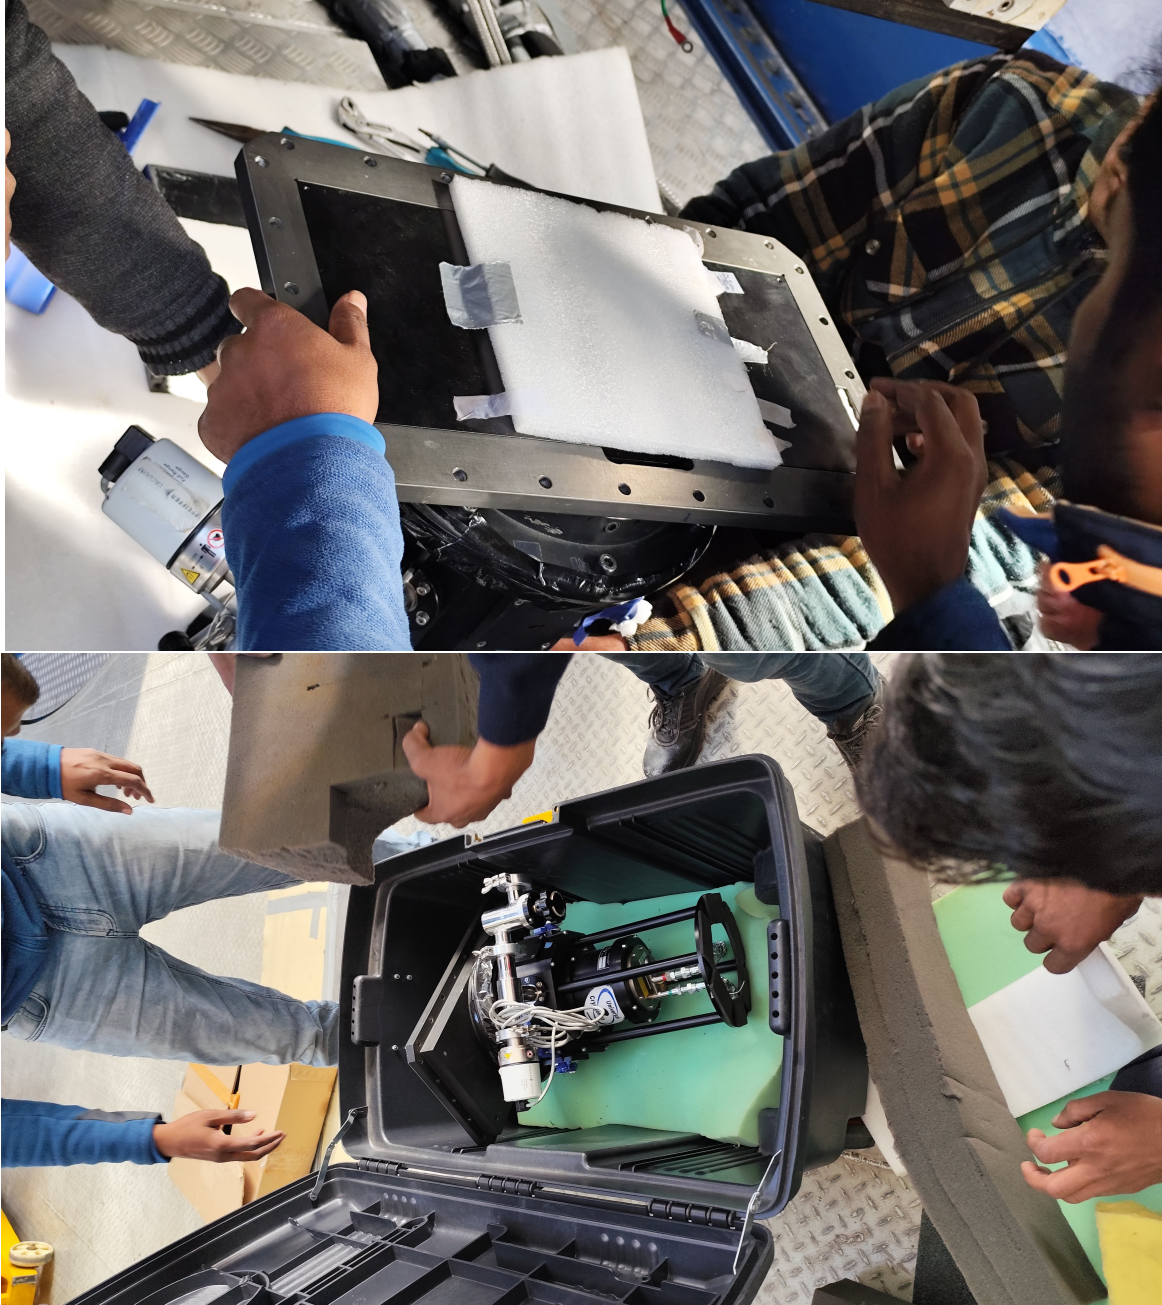

Figure 8: Top to bottom: Cover the CCD and secure the cover with tapes. Store the CCD in the storage box.
16. Cover the top of the CCD and secure it with tapes as shown in the top panel of Fig. 8. Now safely put it in the CCD storage box. **The direction of the CCD in the box should be always the same as shown in the Fig. 8.**